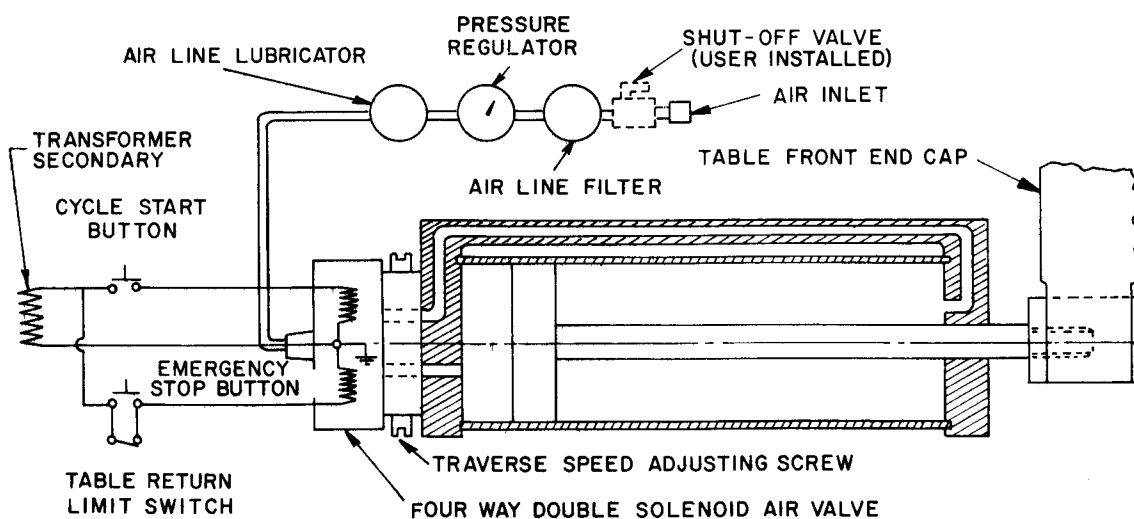

Figure 3-1. Air Motor and Control
3-5. TABLE CYCLE. Figures 3-1 and 3-2 illustrate how the air motor and Hydro-Check control table motion. When the CYCLE START button is depressed, a slide in the four-way, double-solenoid, air valve of the air motor is shifted to permit air to enter the rod end of the cylinder and send the table forward at a rapid traverse rate. The table moves forward rapidly until the piston rod stop and lock nuts on the Hydro-Check contact the table rear end cap at which point the flow of oil through the Hydro-Check slows the table forward speed to the desired cutting feed rate. Adjustment of the cutting feed rate is made by setting the feed rate adjustment (Hydro-Check) knob. At the end of the feed stroke, a cam on the side of the table strikes a cycle stop limit switch. The limit switch breaks contact and the slide in the air motor solenoid shifts to apply air pressure to the head end of the piston to drive the table back to the starting position. On the return stroke the table rear end cap picks up the single in-board Hydro-Check piston rod nut and returns the piston to its starting position. A one-way valve in the Hydro-Check piston opens during the return
e. The speed of the retraction air motor can be set as in the case of the table air motor. Clockwise rotation upper set screw (see figure 3-1) slows the rate of head outfeed. Clockwise rotation of the lower set screw slows the rate of head infeed.